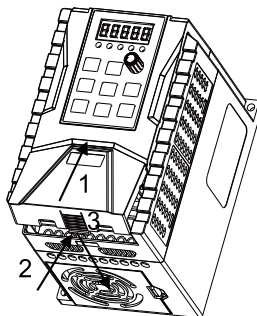

Fig 3-7 Terminal cover installation
B. Method of terminal cover installation is shown as fig 3-7 :install the upper card buckle of terminal cover into the corresponding junction of upper shell. Press the buckle on the side of the cover in direction 2, and finally in direction 3 until you hear "snap" at the joint.